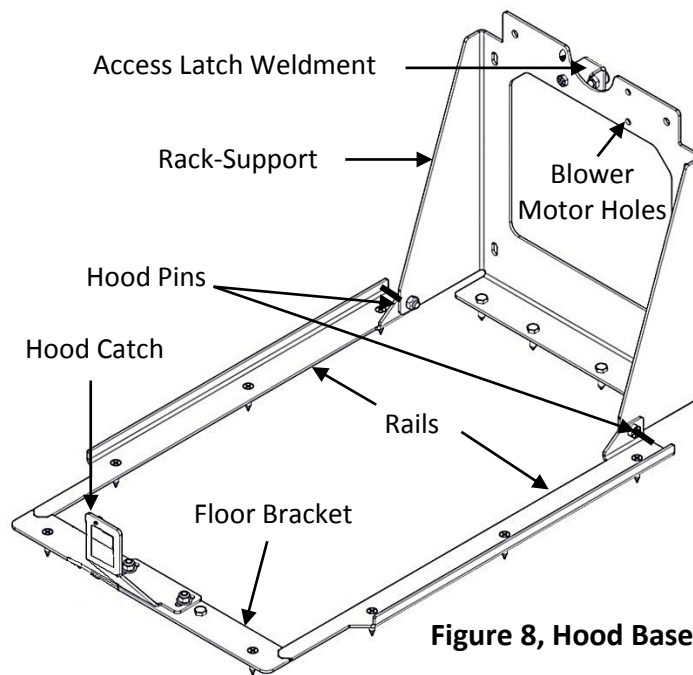

Figure 8, Hood Base
6. Secure the odd and even floor rails to the rack-bezel support using two cap screws (809-857-100) and two nuts (844-057-002). See Figure 8. Also, install the hood locking pins (254-001-014) to the holes in the side of the rack-bezel support directly above where the side rails attach to it.
7. Position the front floor bracket so that the arrow ends of the floor rails fit snugly into the arrow cut-outs in the front floor bracket. This also ensures that each floor rail is parallel to the sides of the ball lift. See Figure 8.
5. Secure the odd and even floor rails to the rack-bezel support using two cap screws (809-857-100) and two nuts (844-057-002). See Figure 8 on the next page. Also, install the hood locking pins (254-001-014) to the holes in the side of the rack-bezel support directly above where the side rails attach to it.
6. Position the front floor bracket so that the arrow ends of the floor rails fit snugly into the arrow cut-outs in the front floor bracket. To ensure that each floor rail is parallel to the sides of the ball lift, measure the distance from the ball lift's side plate to the front and back of each floor rail. Make sure they are equidistant and parallel to the ball lift's sideplates. See Figure 8 on the next page.